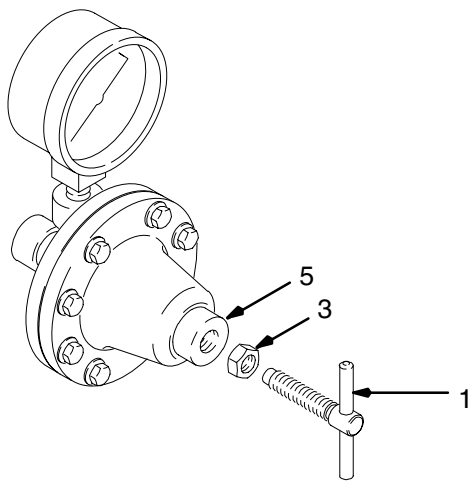

Fig. 3 _____ 02729
1. Close the regulator: turn the adjustment handle (1) counterclockwise to relieve the spring tension. See Fig. 3.
3. Turn the adjustment handle (1) *clockwise* to increase fluid pressure. See Fig. 3. Adjust for the desired spray pattern. *Before reducing the regulator pressure, partially relieve pressure in the gun hose to ensure the correct gauge reading. Tighten the jam nut (3) to the regulator cap (5) to ensure the proper pressure setting.*
- b. Turn the adjustment handle (1) clockwise to open the regulator valve to the desired flushing outlet pressure and flow. See Fig. 3.
3. Turn the adjustment handle (1) counterclockwise until the spring force is relieved (Fig. 3).